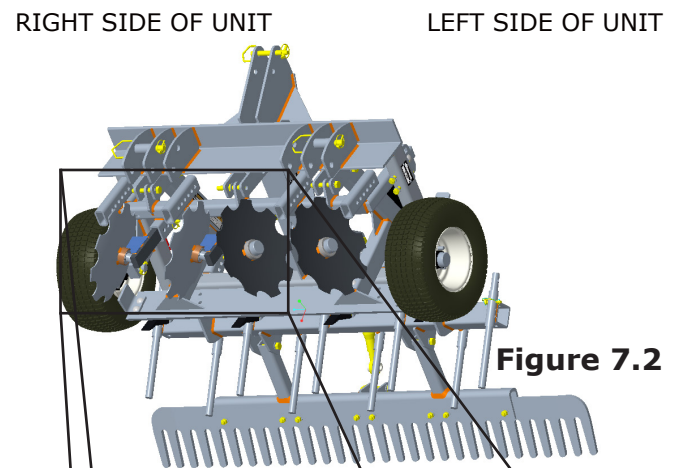

Figure 7.2
2. Slide Left Disc assemblies into the rear set of pockets on the left side of unit and Right Disc assemblies into the rear set of pockets on the right side of unit. (**Figure 7.2 - 7.3**)
8. Food Plot Discs can now be installed, as described, in **Figures 7.2** and **7.3**.